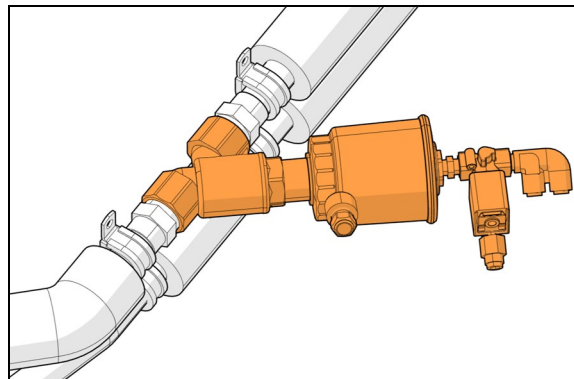

FIGURE 86: DRIVER UNIT HOT WATER PNEUMATIC VALVE ASSEMBLY
The flow of hot water to the driver unit heater core is controlled by a normally-open (NO) pneumatic valve like. The valve, located at the ceiling of the spare wheel compartment (Figure 86), is designed so that the pilot solenoid valve, which is part of the assembly, opens and closes a port which directs air pressure to the actuator casing, thereby opening or closing the valve.
2. Locate the normally open hot water pneumatic valve on the ceiling of the spare wheel compartment (Figure 86), disconnect its wiring connector, and then connect a 24-volt external power source, using jumper cables, to close valve.